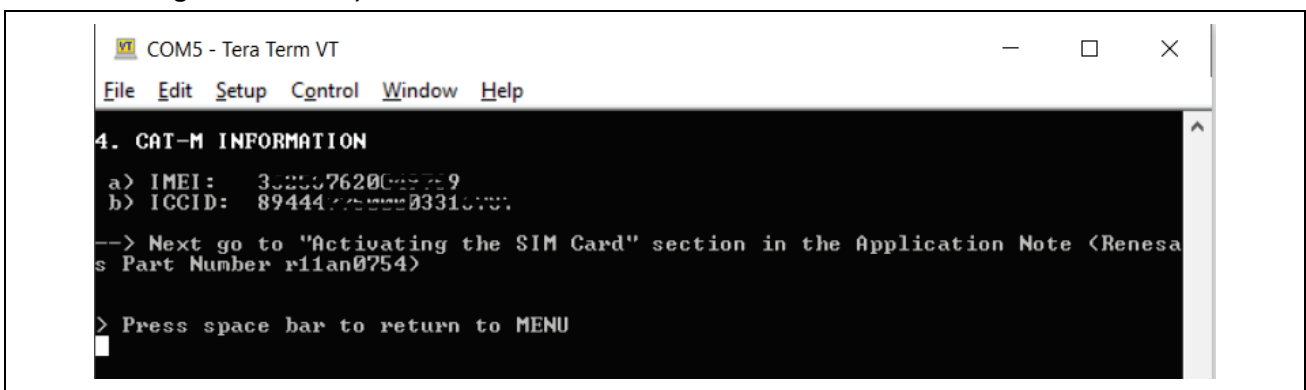

Figure 45. Getting CAT-M Information
8. Enter the **ICCID** value obtained from the **Running the Application project**. See the **ICCID** value in **Figure 45. Getting CAT-M Information**. Fill other fields as needed.